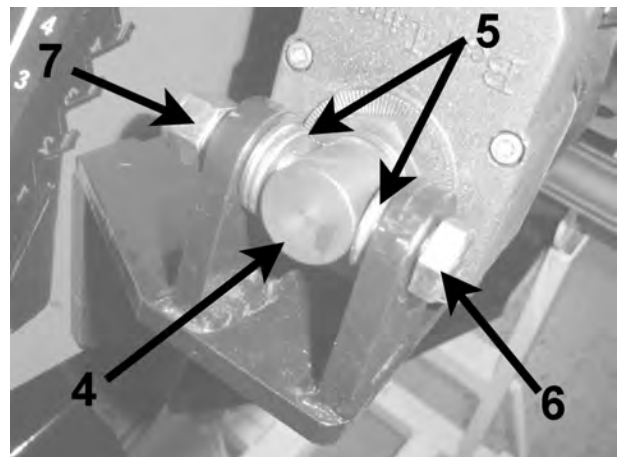

Figure 2
2. Mount the Linear 4" Stroke Actuator **4** onto mounting bracket with one bolt **6**, four washers **5** (two on each side), and one nut **7**. **(Figure 2)**